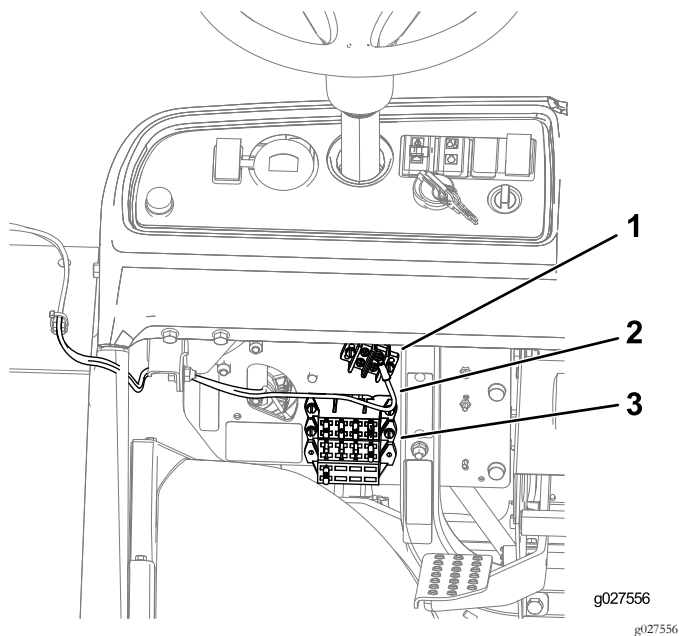

Figure 13
2. **For Workman MD/MDX/MDXD machines:** Connect the ring terminal on the harness to the grounding block and insert the fuse-block connector into an available fuse-block connection (Figure 13).